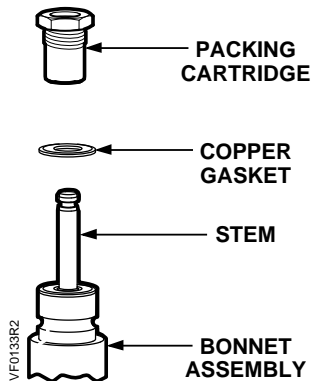

Figure 1. Packing Replacement.
1. Place the new copper gasket on the valve bonnet. See *Figure 1*.